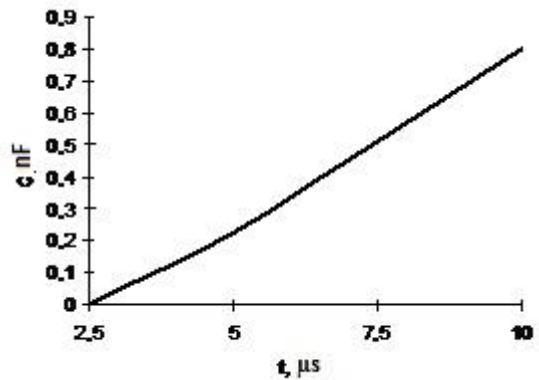

Figure 8 – Graph of protection activation duration delay dependence versus capacity nominal  $C_{trip}$
**CTRIP H1, CTRIP H2, CTRIP H3, CTRIP L1, CTRIP L2, CTRIP L3** – adjustment capacitors of protection activation duration delay at non-saturation of relevant controlled transistor. Initially (tuning presets at supply) are installed capacitors that are relevant to duration delay of 3.6  $\mu$ s. Duration delay dependence of protection activation at non-saturation from the nominal of present capacitors is shown on Figure 8.